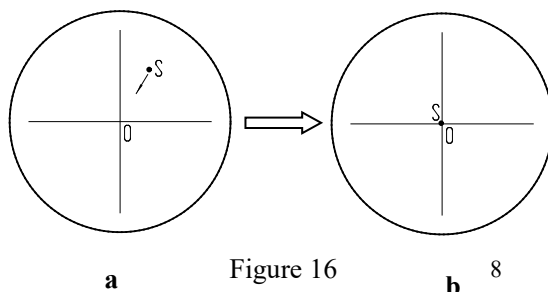

Figure 16
- 1) Push rod 3, observe specimen image. Find a target (a target easily to be recognized, as S in figure 16-a) and remove it to the field center. Remove it to the cross point of the graduation eyepiece if you have as figure 16-b.